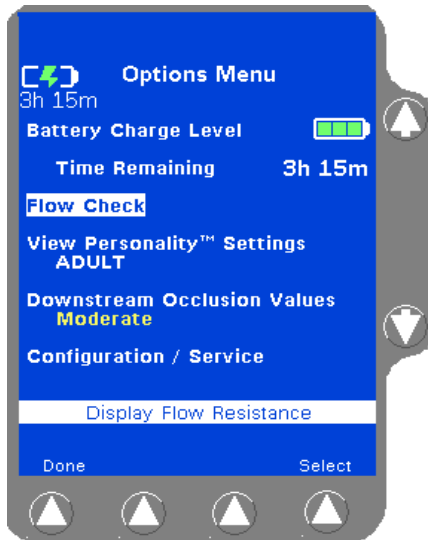

Figure 4-104 Options Menu
1. From the Main Display, press the **Options** soft key to access the Options Menu as shown in Figure 4-104.